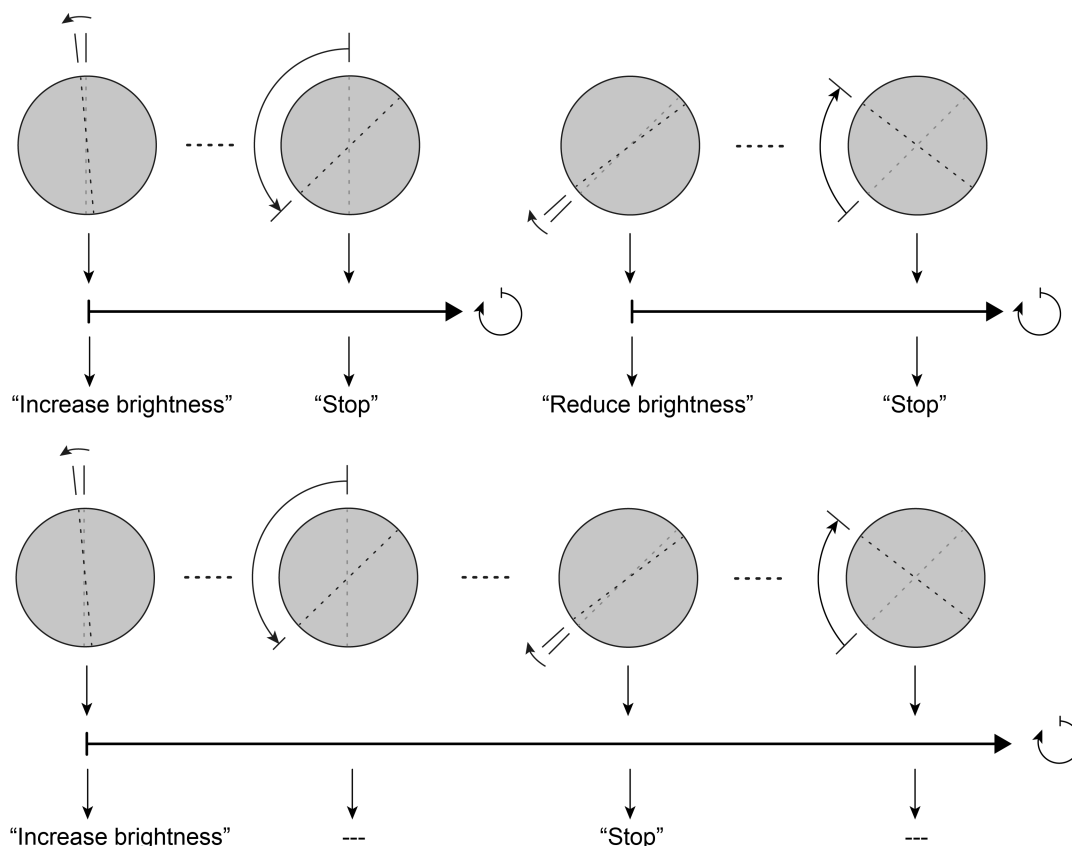

Figure 16: Example of the operation concept of the Rotary knob function "Venetian blind" in the operation concept "Dimming without OFF telegram"
- i** The behaviour of the device when increasing brightness is identical to the operation concept "Dimming without OFF telegram" (figure 16). For this reason, the figure for the operation concept "Dimming with OFF telegram" only shows decreasing brightness and switching off.